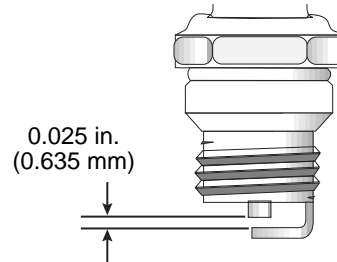

Fig. 31
3. Replace a cracked, fouled or dirty spark plug. Set the air gap at 0.025 in. (0.635 mm) using a feeler gauge (Fig. 31).